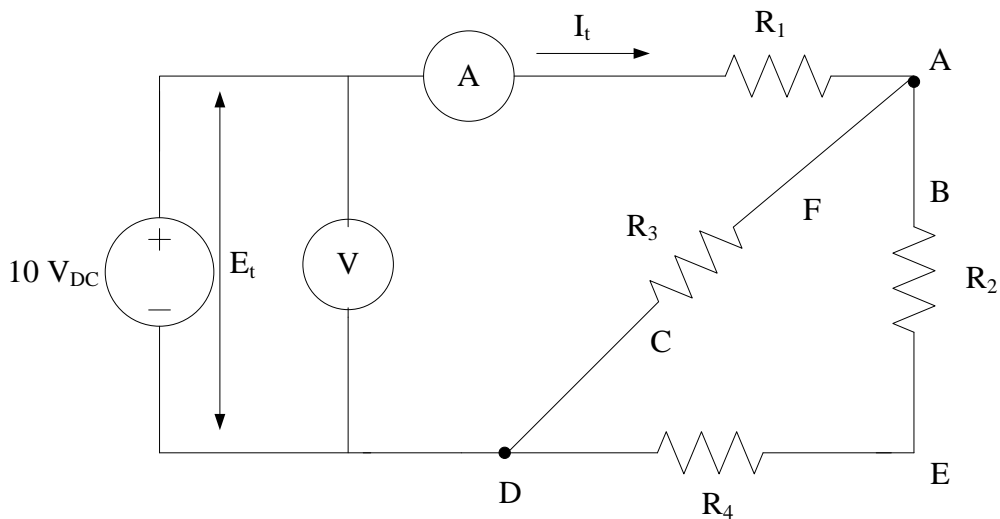

Figure 4
3.6 Change the circuit to the one in Fig.4 (AMMETER changes place)